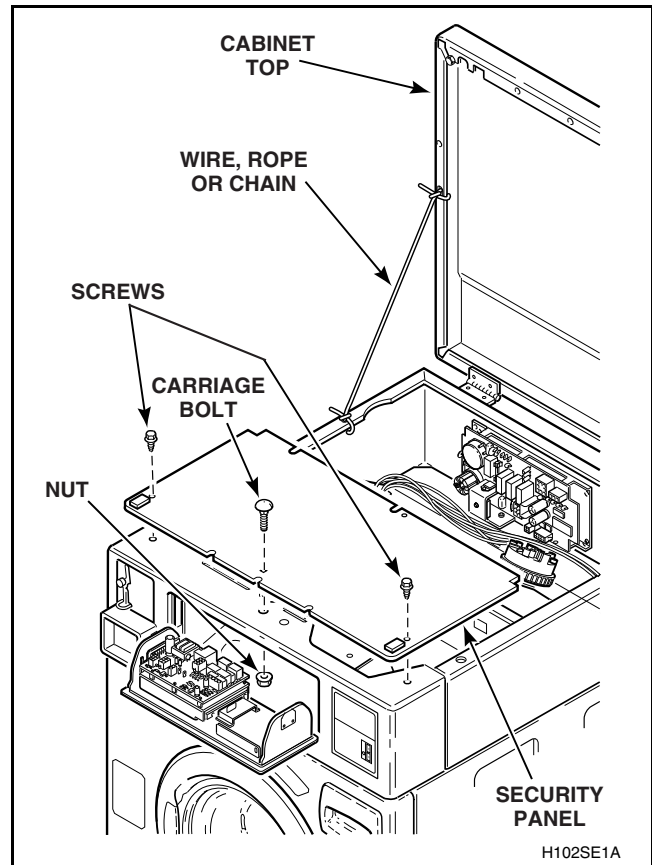
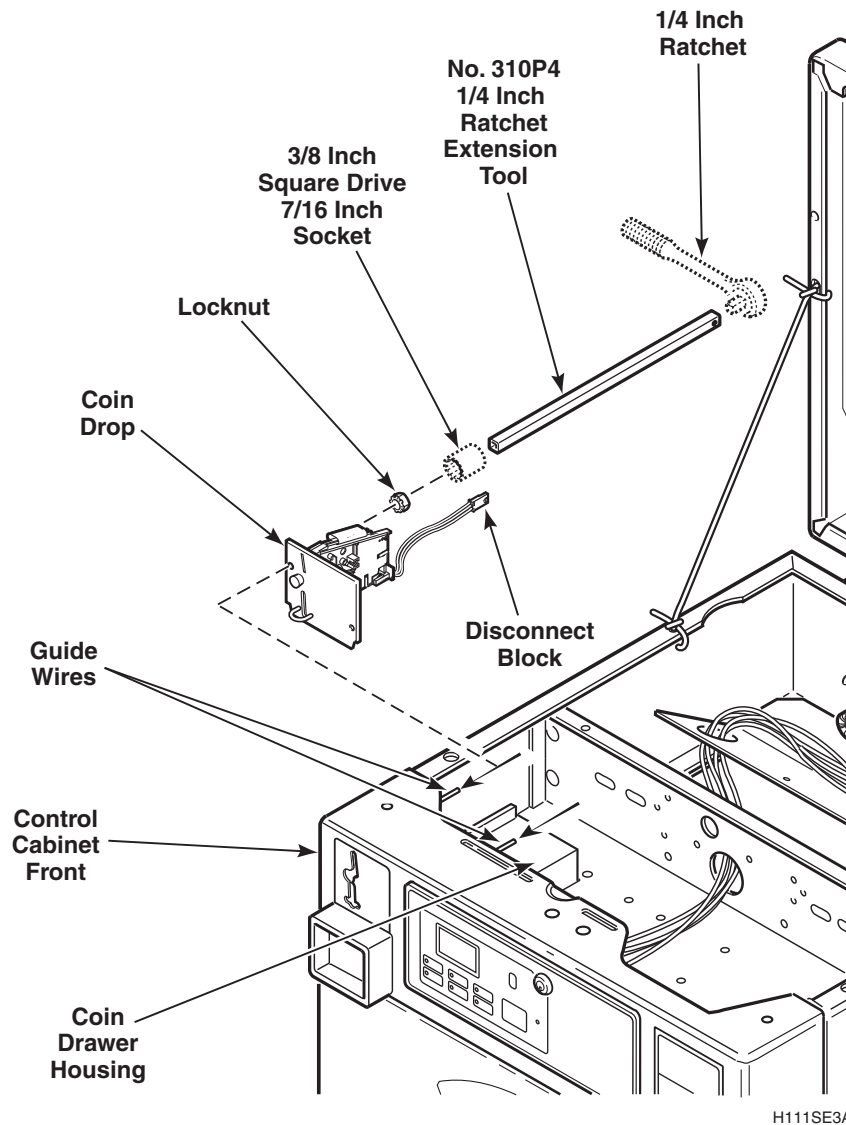

Figure 46
Figure 47
- (5) If area or space permits, lift cabinet top to a vertical position by hinging it on the rear hinges.
**NOTE:** To avoid damage to hinges, be sure to support cabinet top with a small chain or something similar. Refer to *Figure 46*.
- (6) Remove screws and carriage bolt holding security top panel to control cabinet front. Refer to *Figure 46*. Slide security top panel back just far enough to disengage tabs on panel from control cabinet front and remove security panel. Refer to *Figure 46*.
- (7) Disconnect coin drop harness at disconnect block.
- (8) Use a 3/8 inch square drive socket, with number 310P4—quarter inch Ratchet Extension Tool, to remove 2 locknuts holding coin drop to front of control cabinet.
**NOTE:** A 3/8 inch square drive socket, size 7/16 inch, fits over end of the 310P4 Extension Tool. A 1/4 inch ratchet fits in the other end. Refer to *Figure 47*.
- (9) Lift back end of coin drop and pull drop straight back until front edge of the drop's front face plate clears the 2 guide wires.